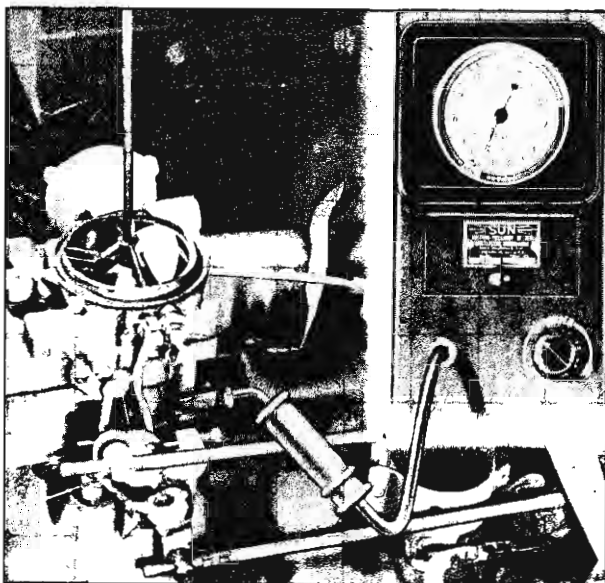

Fig. 34—Typical Vacuum Gauge Connection
- Connect hose from vacuum-gauge unit to vacuum port on carburetor (fig. 34) and connect a tachometer to engine.